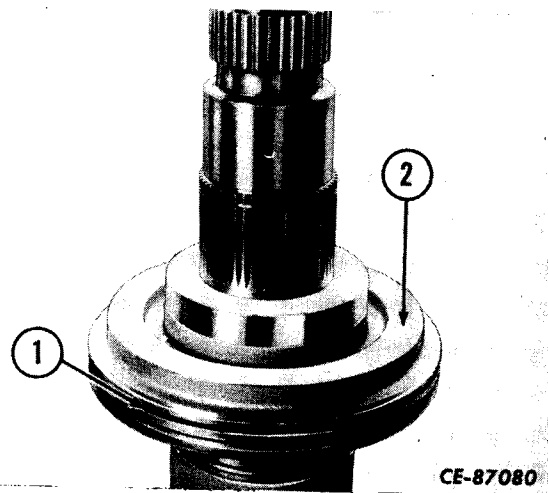

Figure 4-42
Install new rectangular seal ring (1, Fig. 4-42) on clutch piston outer diameter. Coat seal ring on shaft and accelerating piston and inner bore of clutch piston with grease or clean transmission fluid. Install clutch piston (2) on shaft assembly being careful not to damage hook type seal rings.